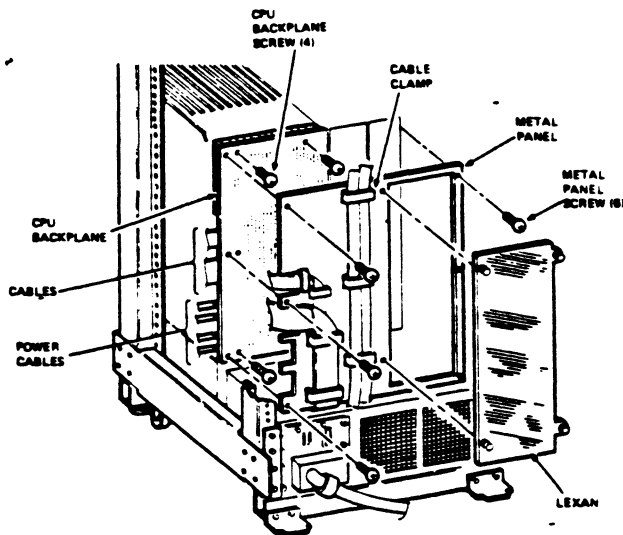

FIGURE 5-32 CABINET BACKPLANE REMOVAL
11. Remove the four black plastic retainers securing the plastic lexan cover over the space for the expansion backplane location. See Figure 5-32.